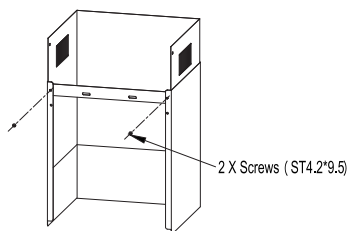

Fig.7
- Connect chimney installation plate and chimney. See Fig.7.